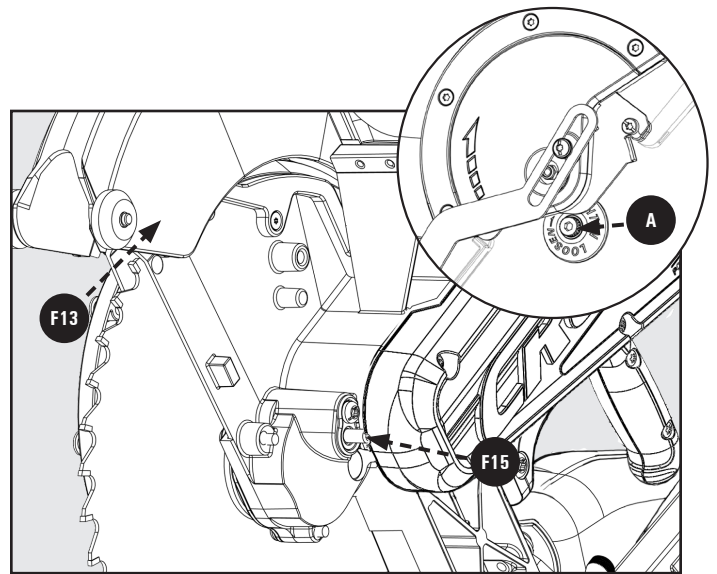

Figure 8
See Figure 8.
**⚠ WARNING:** Make sure the Spindle Lock Button **F15**, see Figure 8, is not engaged before reconnecting Saw to power source. **NEVER** engage Spindle Lock button when Blade is rotating.